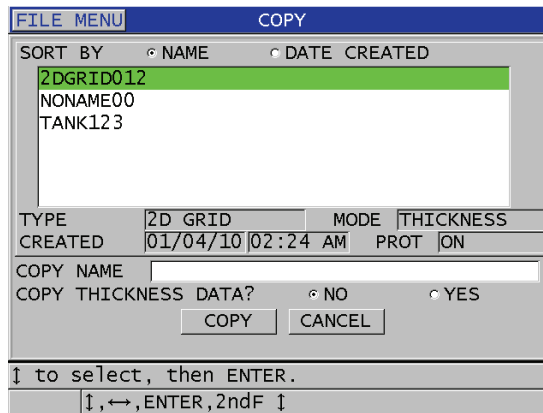

Figure 11-17 Copying a file
3. In the **COPY** screen (see Figure 11-17 on page 183):